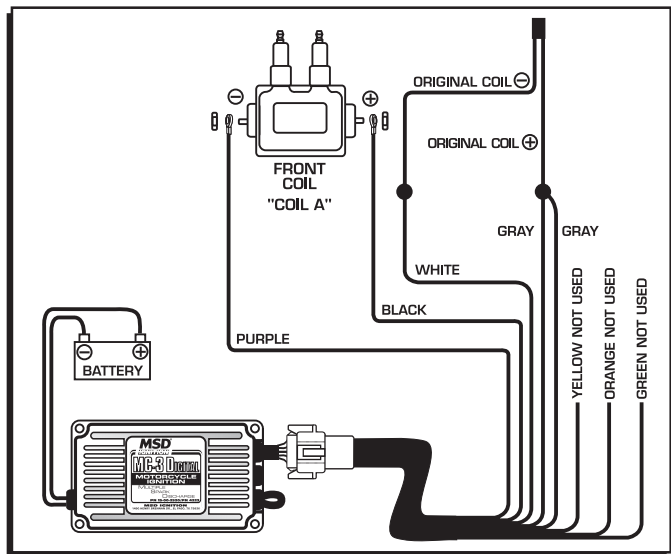

Figure 3 Wiring to a Stock Single Coil System.
Single Coil: Attach the coil's negative wire to the White wire of the MSD (Figure 3).
5. Review your wiring with Figure 3 or 4 and make any corrections. If everything matches, connect the heavy Red wire to the battery positive (+) terminal and the heavy Black wire to the negative (-) battery terminal. The wiring is complete.